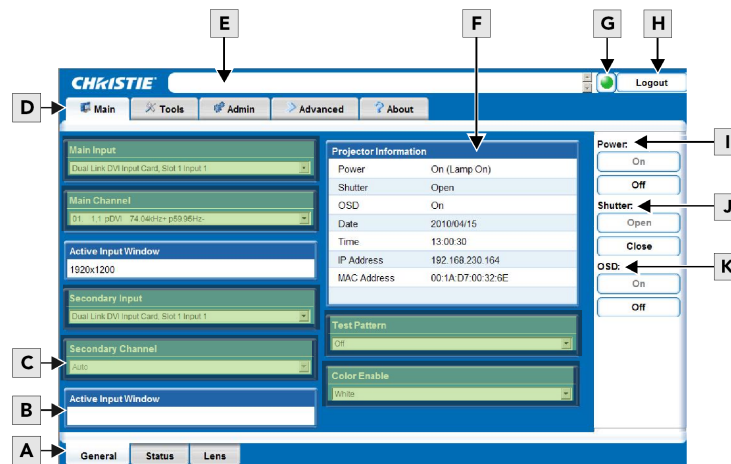

FIGURE 4-3 MAIN WINDOW
4. Click the **Login** button. The **Main** window (see Figure 4-3) appears.
The following table describes each area found in the Main window. See *Figure 4-3*.
Under the **Main** tabbed page, select the **General** secondary tab to view general information about Inputs, Channels, Projector Information, Test Pattern, and Color Enable (see Figure 4-3). For detailed information refer to Section 3 Operation.